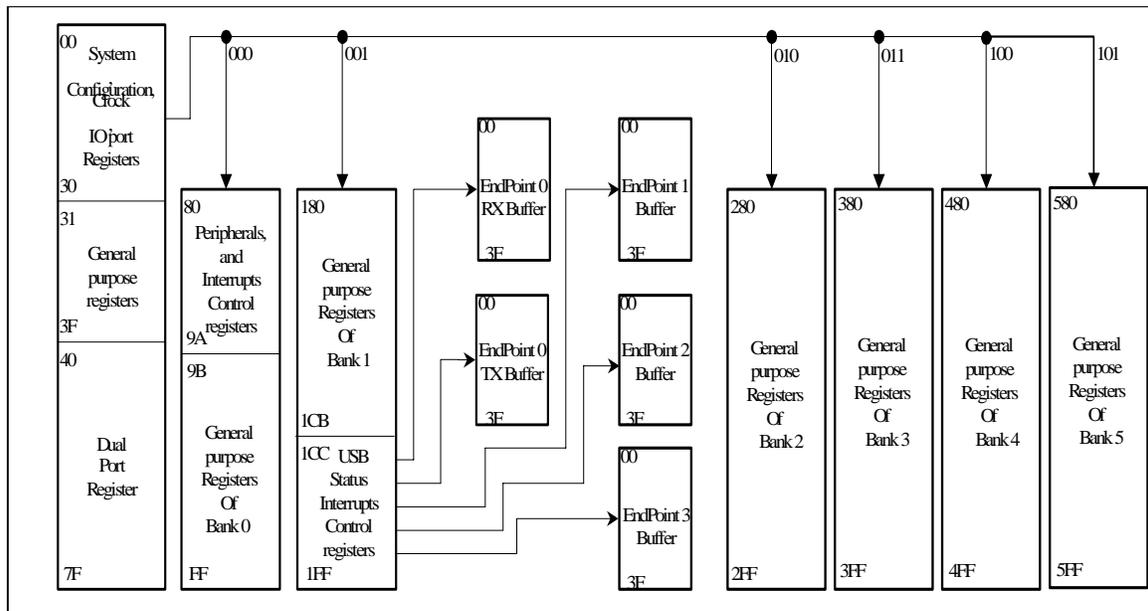

Fig. 6-2 Configuration of Data Memory (RAM) for EM77930
A total of 1218 accessible bytes of data memory are available for the EM77930. By function, they are classified into general purpose registers, system control / configuration registers, specification purpose registers, USB control/status registers, baseband (BB) control/status registers, timer/counter registers, and I/O port status/control registers. All of the above registers except I/O ports and their related control registers are implemented as static RAM. The RAM configurations are shown in Fig. 6-2.